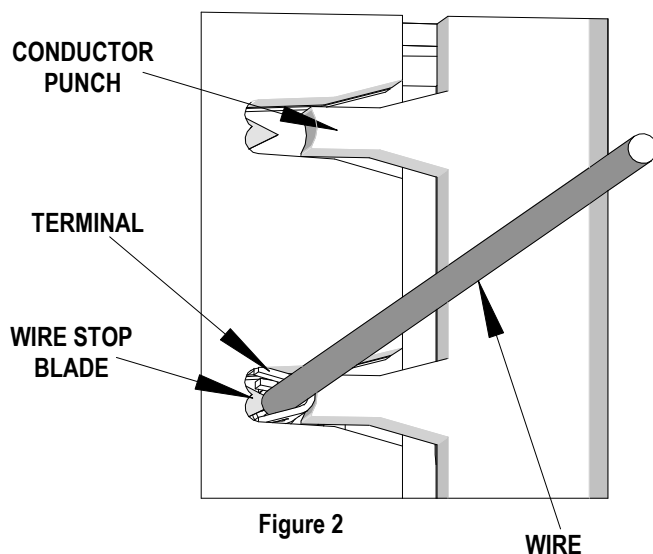
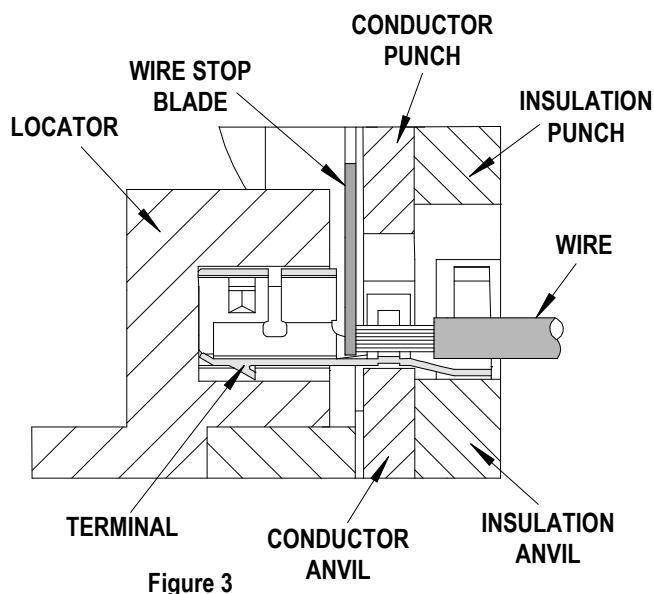

Figure 2
Figure 3
5. Slide the pre-stripped wire into the terminal; make sure to aim the wire brush towards the tip point on the wire stop blade. See Figure 2. Align the wire so that it is parallel and sitting into the terminal. Maintain a light and constant pressure on the wire that is seated in the terminal at all times. (Do not let go of the wire.) Be sure to hold the wire and terminal in place until the terminal is fully crimped. See Figure 3.